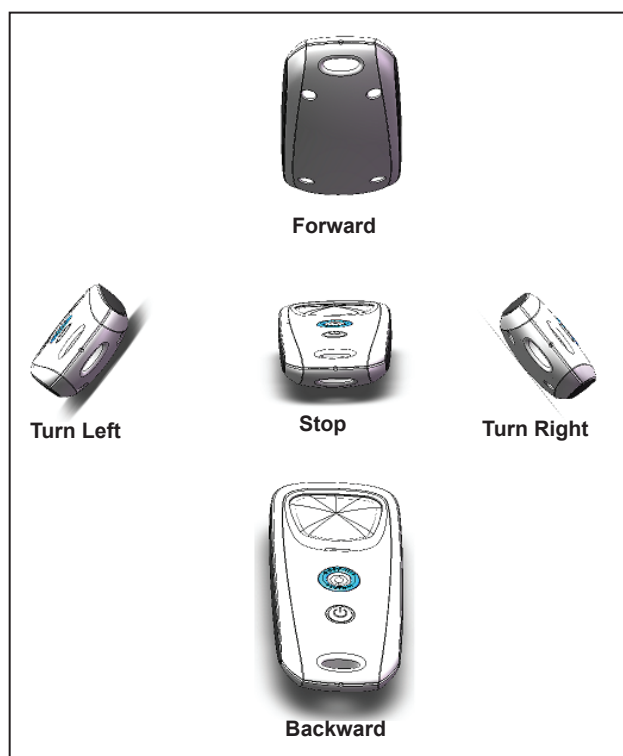

Figure 24. Remote Control Directional Commands
- To pilot the cleaner, point the device toward the cleaner in the water and move directionally as shown in Figure 24.